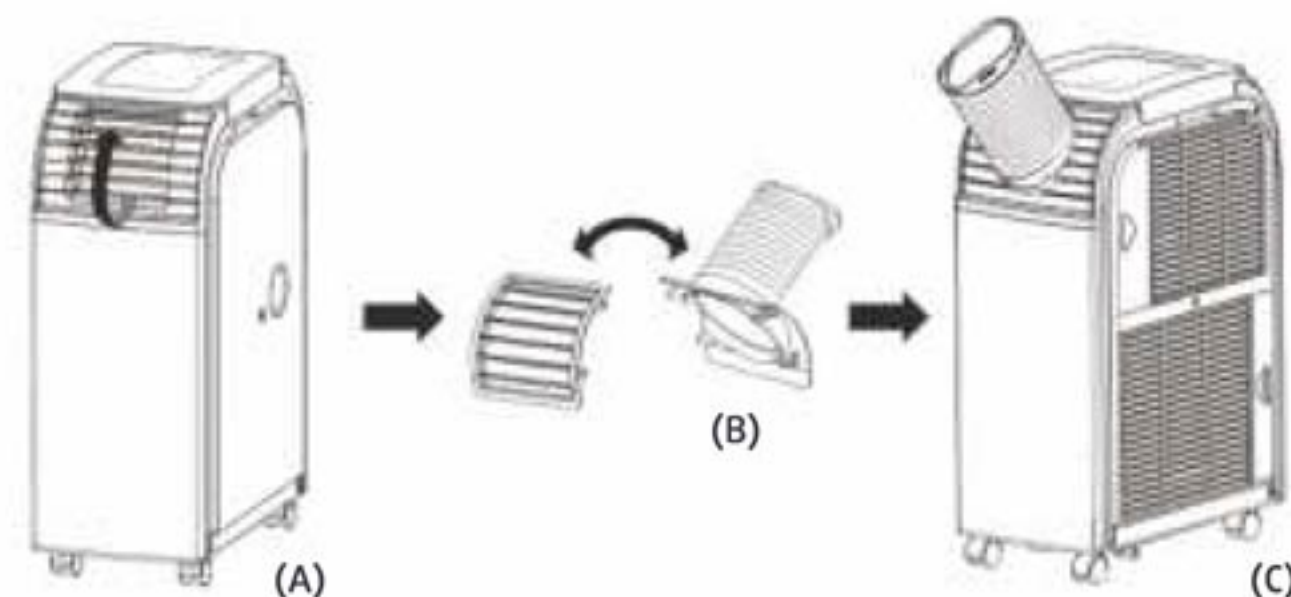

Fig. 6
Installation of the hose in cooling / heating modes (Fig. 6)
Disconnect the removable grill and the air outlet hose, as shown by the arrow in Fig. 6 – A, then interchange their position (B) and connect to the unit. Final structure is shown in Fig. 6 – C.